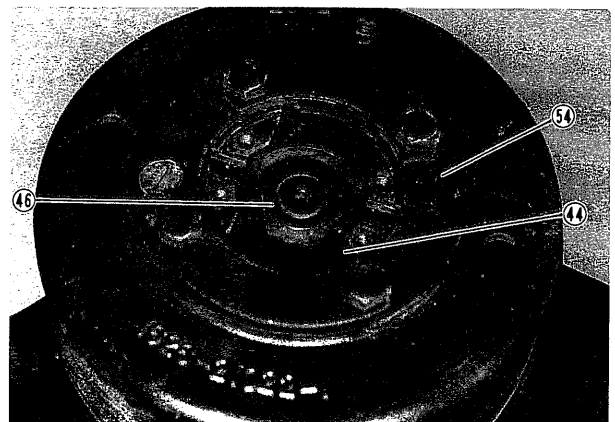

Fig. 60
- 1) Remove nut (46) and remove brake drum (54) together with coupling (44). (Fig. 60)